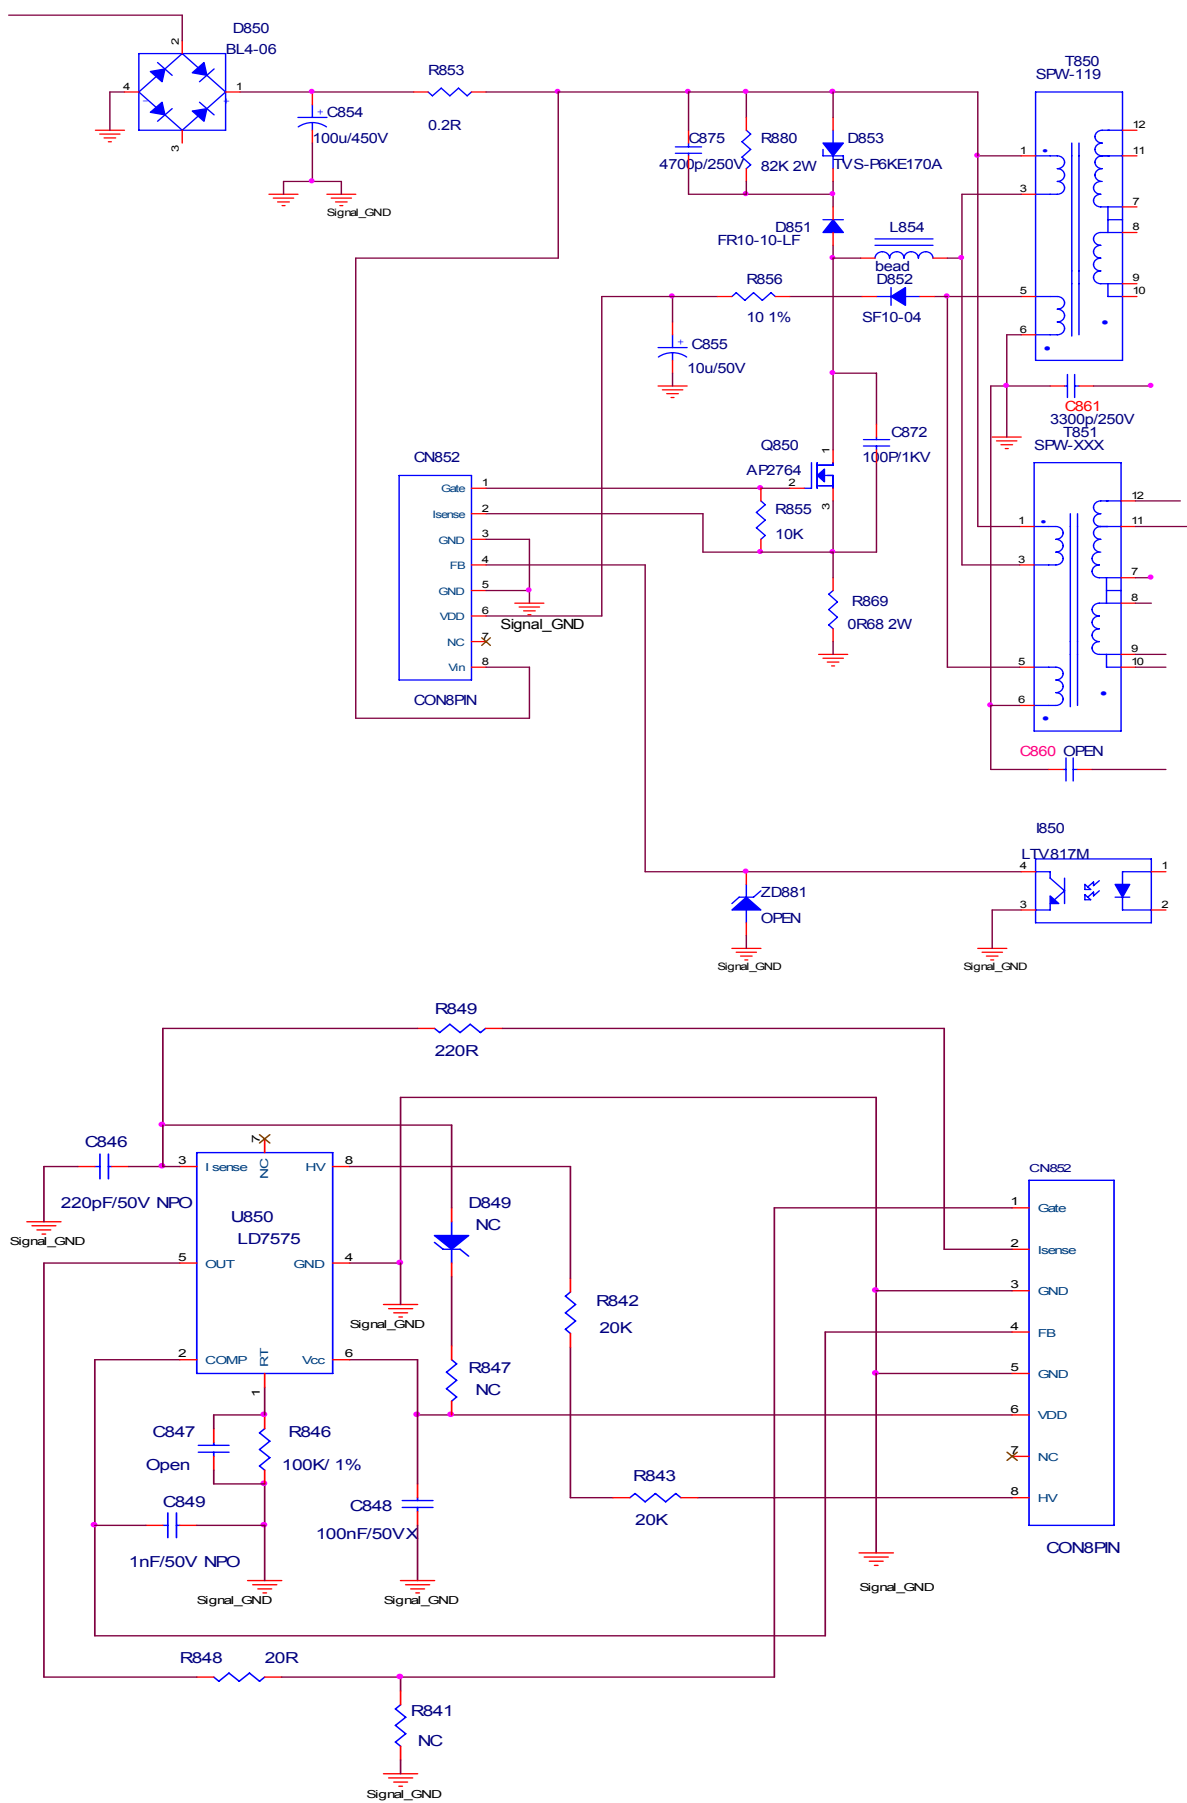

Fig.6
2.2.3)High Voltage to Low Voltage Control Circuit:(fig.6)